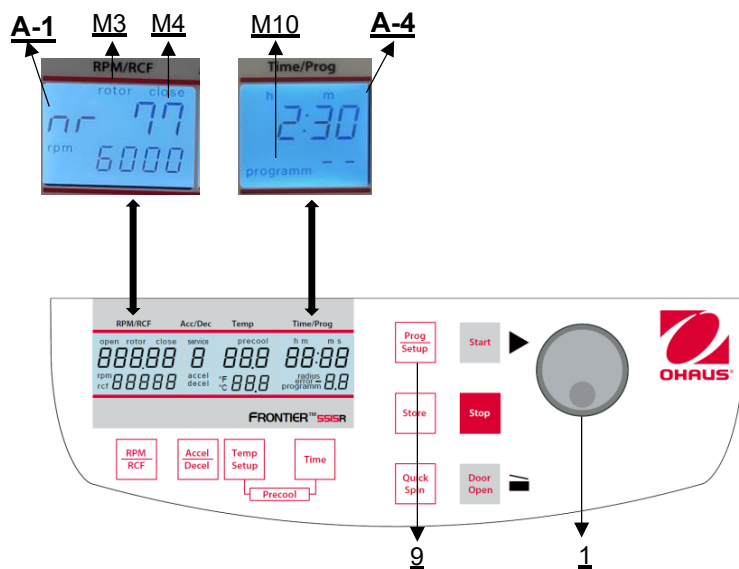

Figure 25
To recall stored programs, press the key **"Prog/Setup"** (9) (see Figure 25) while the lid is already closed. Inside the display **"Time/Prog"** (A-4), **"program--"** (M10) appears. The desired program number can be pre-selected with the adjusting knob (1).
To leave the program mode just press the key **"Prog/Setup"** (9) (see **Figure 25**). Then inside the display